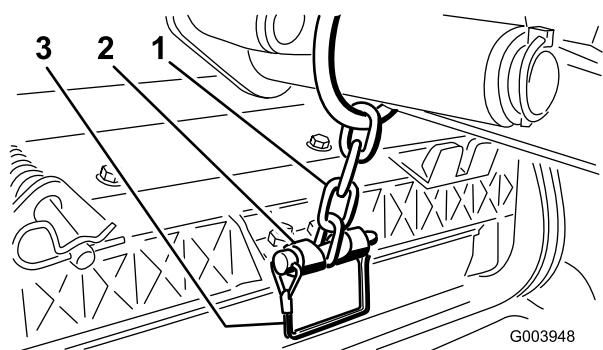

Figure 9
11. Secure the lift-arm chain to the chain bracket with the snapper pin (Figure 9).